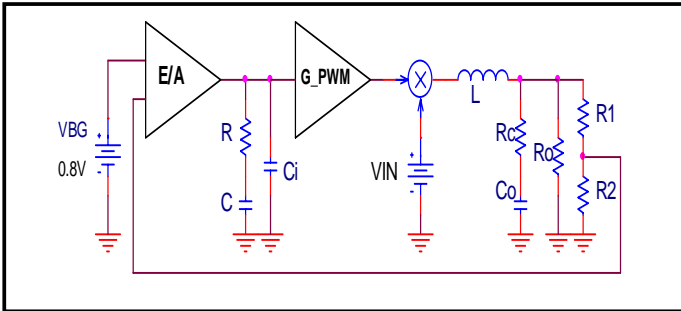

Fig. 4. SC2608A small signal model.
The control model of SC2608A is depicted in Fig. 4. This model can also be used to generate loop gain Bode plots. The bandgap reference is 0.8V and trimmed to +/-1% accuracy. The desired output voltage can be achieved by setting the resistive divider network, R1 and R2. The error amplifier is transconductance type with fixed gain of:
(6) The final step is to generate the Bode plot by using the simulation model in Fig. 4 or using the equations provided here with Mathcad. The phase margin can then be checked using the Bode plot.